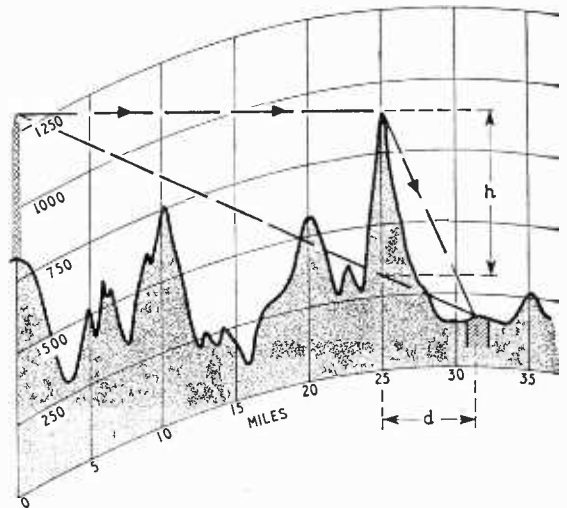

Fig. 1. A hypothetical obstructed path illustrating diffraction.
**Diffraction:**—The terrain to be covered is rarely topographically featureless and in any event there is the curvature of the earth's surface to allow for. Fig. 1 illustrates a hypothetical obstructed path. The diffraction loss becomes greater as the frequency and the height,  $h$ , increases and as the distance,  $d$ , between the closest obstruction and the receiver decreases.
The necessary ground profiles are drawn on the special form of graph paper shown in Fig. 1, on which the distance axis is curved to represent the effective curvature of the earth on a greatly exaggerated height scale for standard atmospheric refraction. (The latter is expressed as the ratio, designated  $k$ , of the effective earth's radius—i.e. one in which refraction is taken into account—to the true earth's radius. For overland paths in temperate climates  $k$  is normally 4/3.) By this means it becomes possible to draw the curved ray paths more conveniently as straight lines and to enable the standard (i.e. median time) field strength to be calculated. Although no two profiles are exactly alike, the majority fall into one or other of the three following broad types:—
derived for the appropriate frequency from Fresnel's knife-edge theory in the normal practical condition where  $h$  is small compared with  $d$  (see Fig. 1). As very few hills resemble knife-edges, corrections have to be applied for rounded and irregular obstructions and for the special case when  $h$  is not small compared with  $d$ . The magnitude of these important corrections and when to apply them can at present be determined only by experience based largely on the analysis of many actual measurements made over similar paths.